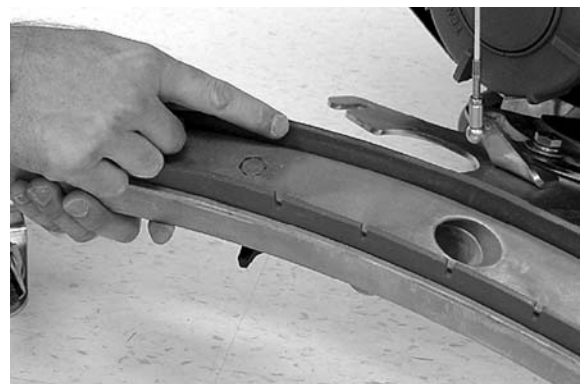

FIG. 50
- Check the condition of the squeegee blade wiping edge (Figure 50). Rotate blade if worn. (See SQUEEGEE BLADE REPLACEMENT)